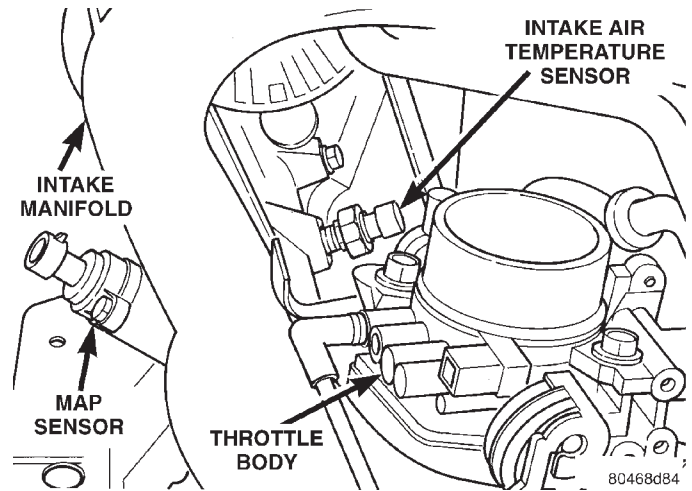
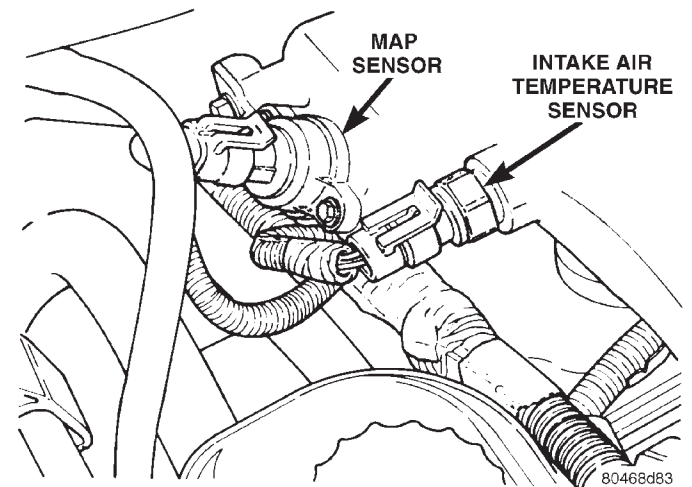

Fig. 38 MAP Sensor and Intake Air Temperature Sensor—2.4L Engine
Fig. 39 MAP Sensor and Intake Air Temperature Sensor—2.5L Engine
(7) Inspect the electrical connections at the intake air temperature sensor and the MAP sensor (Fig. 38) or (Fig. 39).